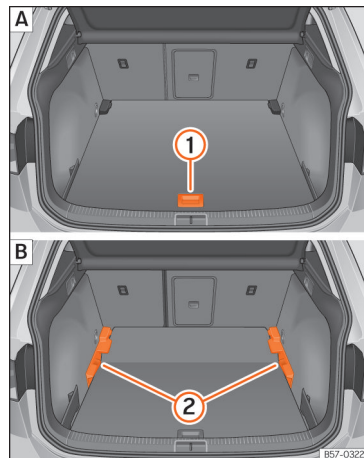

Fig. 168 Variable luggage compartment floor:
- To move from the low position to the high position, lift the floor using the handle >>> Fig. 168 ①, and pull it back until the front of the floor has fully passed the supports ②.
- Move the floor forward over the supports as far as the rear seat backrest and then lower the floor with the handle ①.
- To move from the high position to the low position, lift the floor using the handle >>> Fig. 168 ①, and pull it back until the front of the floor has fully passed the supports ②.
- Now let the front part fall to the floor and slide the floor forwards as far as the rear seat backrest; lower the floor at the same time with the handle ①.
- Lift the variable floor in the high position using handle »» Fig. 168 ①, pull it up and push it towards the backrest of the rear seats until it folds along the hinge line and the movable part of the floor is resting on itself.
- To move from the high position to the low position, lift the floor using the handle »» Fig. 168 ① and pull it back a little.
- Push the variable floor towards the folded rear seats with the handle ① using some downward pressure so that the moving part of the floor is flush with the backs of the rear seats.